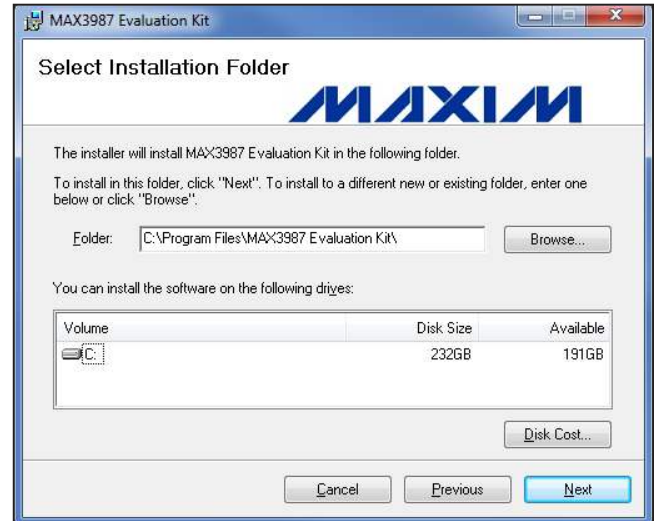

Figure 4. Software Installer Destination Folder Selection
- 3) Click **Next** to accept the default destination folder. See Figure 4.